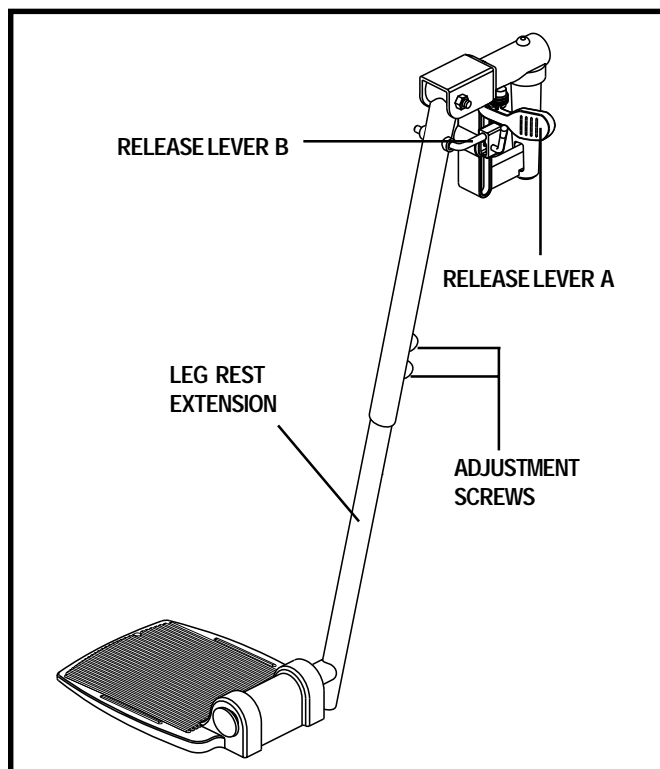

Figure 20. Elevating Leg Rests
Elevating Leg Rests (ELRs) offer an infinite range of adjustment for the leg angle and a footrest adjustment range of 12–19 in. See figure 20.
1. Remove the two screws from the side of each leg rest extension. See figure 20.